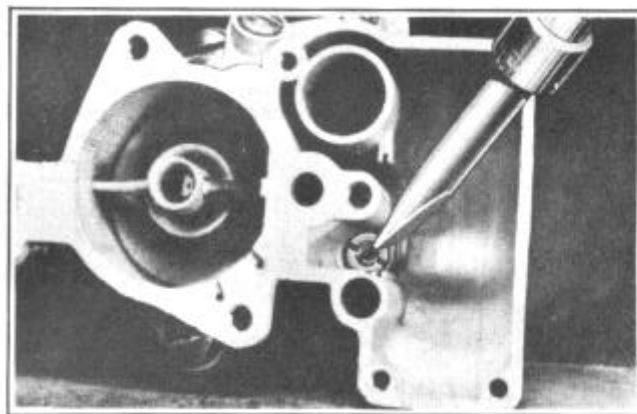

FIGURE 12
5. Remove the metering rod jet and gasket assembly, Figure 12.